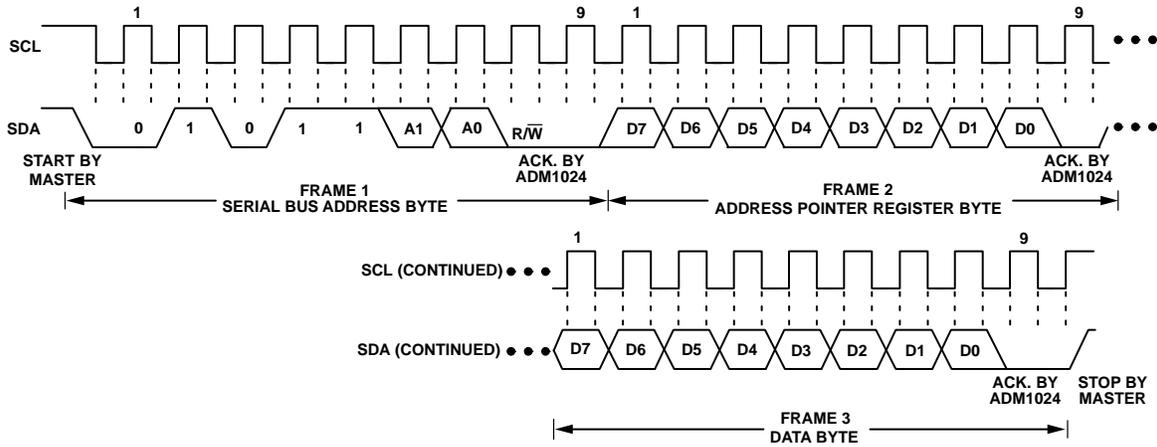
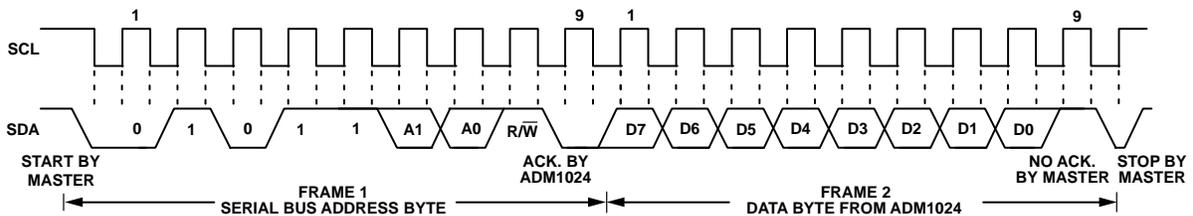

Figure 10. Writing a Register Address to the Address Pointer Register, then Writing Data to the Selected Register
Figure 12. Reading Data from a Previously Selected Register
To write data to one of the device data registers or read data from it, the Address Pointer Register must be set so that the correct data register is addressed, then data can be written into that register or read from it. The first byte of a write operation always contains an address that is stored in the Address Pointer Register. If data is to be written to the device, the write operation contains a second data byte that is written to the register selected by the Address Pointer Register. This is illustrated in Figure 10 The device address is sent over the bus followed by R/W set to 0. This is followed by two data bytes. The first data byte is the address of the internal data register to be written to, which is stored in the Address Pointer Register. The second data byte is the data to be written to the internal data register.
the serial bus address,  $R/\overline{W}$  bit set to 1, followed by the data byte read from the data register. This is shown in Figure 12.
2. In Figure 10 to Figure 12, the serial bus address is shown as the default value 01011(A1)(A0), where A1 and A0 are set by the three-state ADD pin.